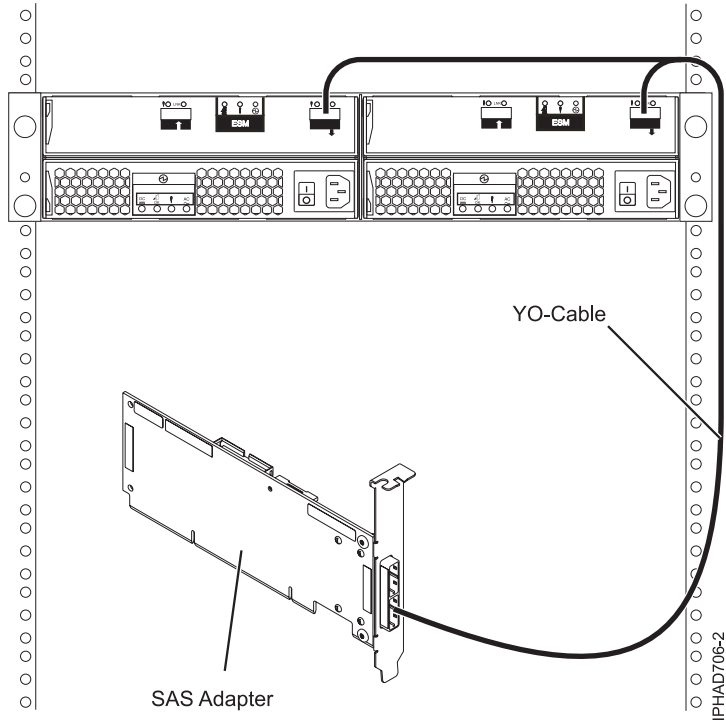
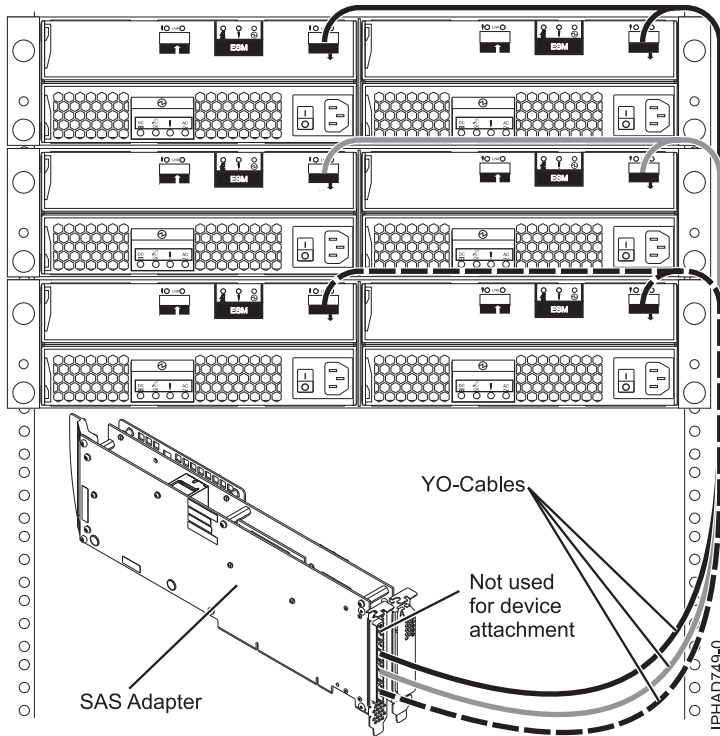
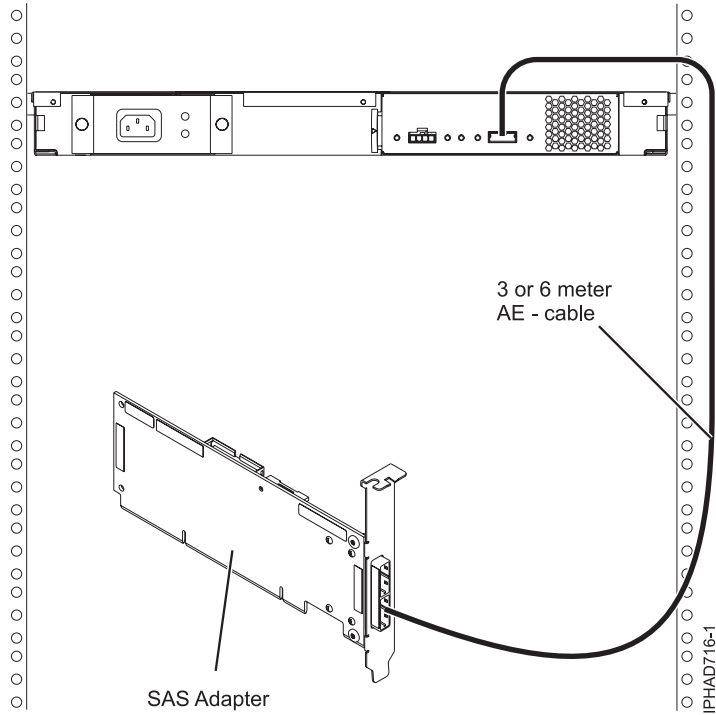

Figure 140. SAS adapter to a disk expansion drawer
Figure 143. Tri-port SAS adapter to disk expansion drawers
Figure 144. SAS adapter to a media expansion drawer
Figure 140 on page 144, Figure 141 on page 144, Figure 142 on page 145, and Figure 143 on page 146 illustrate connecting a SAS adapter to one, two, three, or four disk expansion drawers. It is also possible to connect three disk expansion drawers by omitting one of the cascaded drawers shown in Figure 142 on page 145. Disk expansion drawers can be cascaded only one level deep.
Figure 144 on page 147 illustrates connecting a SAS adapter to a media expansion drawer. It is also possible to connect a second media expansion drawer to the second port of the SAS adapter.
- The second connector on the adapter can be used to attach a disk expansion or media expansion drawer as shown in Figure 140 on page 144 or Figure 144 on page 147.
- The remaining two connectors on the adapter can be used to attach disk expansion drawers as shown in Figure 143 on page 146.
**Two SAS adapters to disk expansion drawer multi-initiator high availability (HA) RAID configuration**